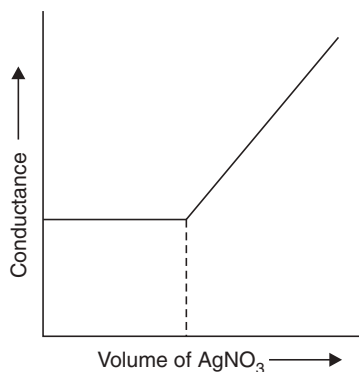

**Fig. 9.10 (b)** Changes in conductivity during titration of a weak acid ( $\text{CH}_3\text{COOH}$ ) (aq) with a strong base (NaOH) (aq).
**Fig. 9.10 (a)** Changes in conductivity during titration of NaOH(aq) with HCl(aq). In water  $\text{H}^+(\text{aq})$  and  $\text{OH}^-(\text{aq})$  ions are very mobile, so they conduct electricity very well.